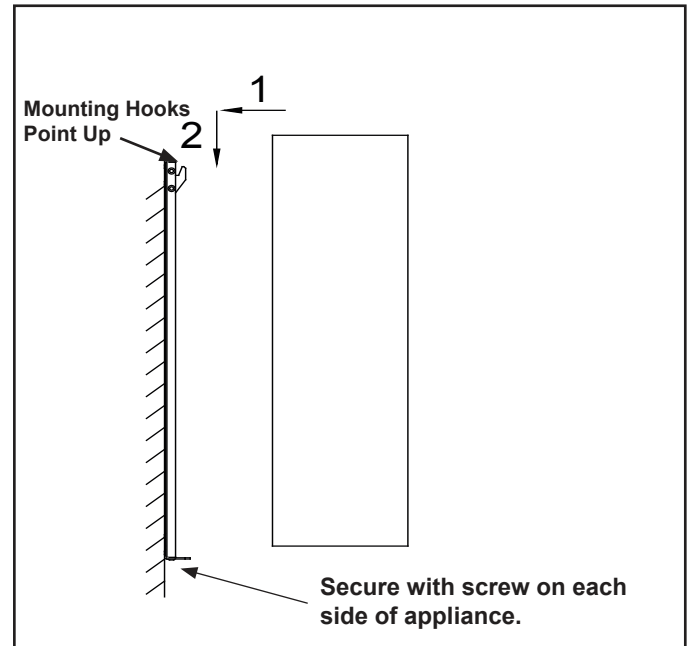

Figure 4.13 Attaching Appliance to Bracket
- Hang the appliance and pull down to ensure the hooks are fully engaged. See Figure 4.13.
- Secure the appliance to the bracket with two M5X10 screws. See Figure 4.13.